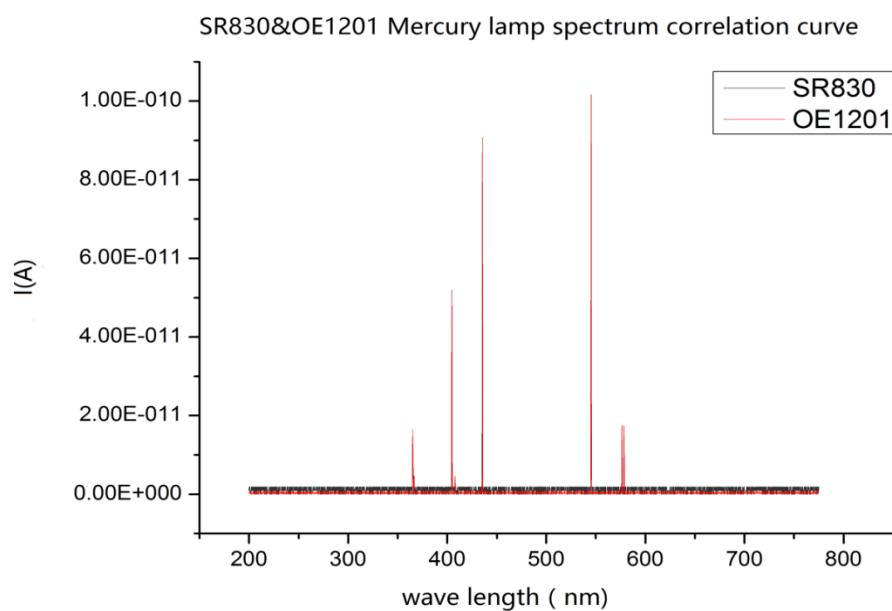

Fig.71 The Contrast Spectrum Curve between SR830 and OE1201
5. Use the SR830 instead of the OE1201 to measure. Repeat the steps above to run the same experiment. Then you will get another spectral curve as is shown in Fig.71. You can see that these two curves measured by OE1201 and SR830 are almost the same.